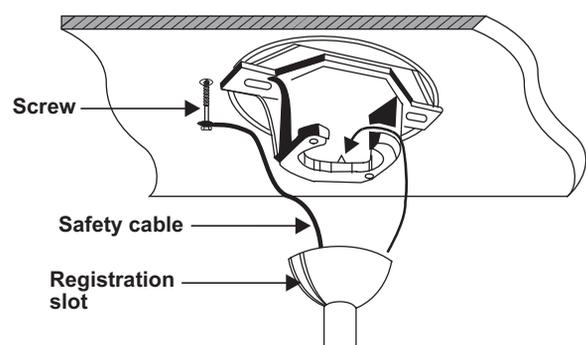

Figure 8
8. Now lift the motor assembly into position and place the hanger ball into the hanger bracket. Rotate down rod until the "Check Tab" has dropped into the "Registration Slot" and the down rod and ball assembly seat firmly. The down rod and ball assembly should not rotate if this is done correctly. (Fig. 8)
9. An additional safety support is provided to prevent the fan from falling. Secure the safety cable to the ceiling joist with screw and washer. (Fig. 8).